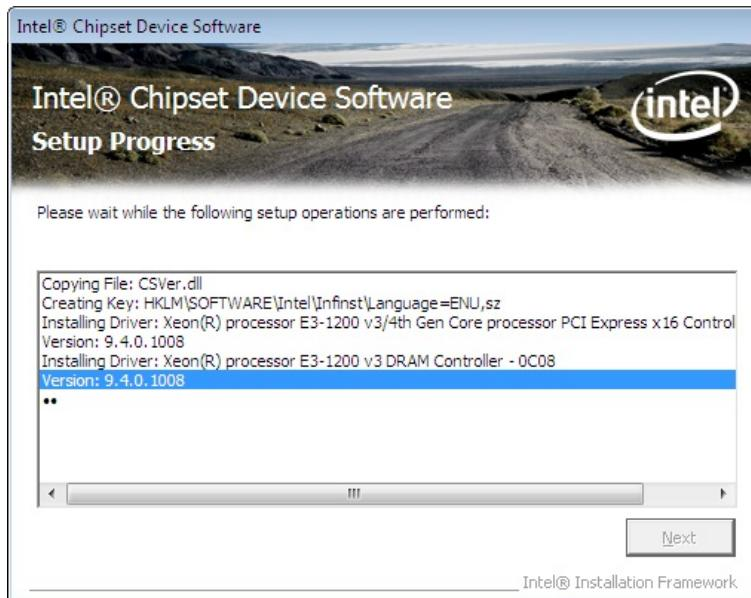

Figure 6-6: Chipset Driver Setup Operations
Step 11: Setup Operations are performed as shown in **Figure 6-6**.